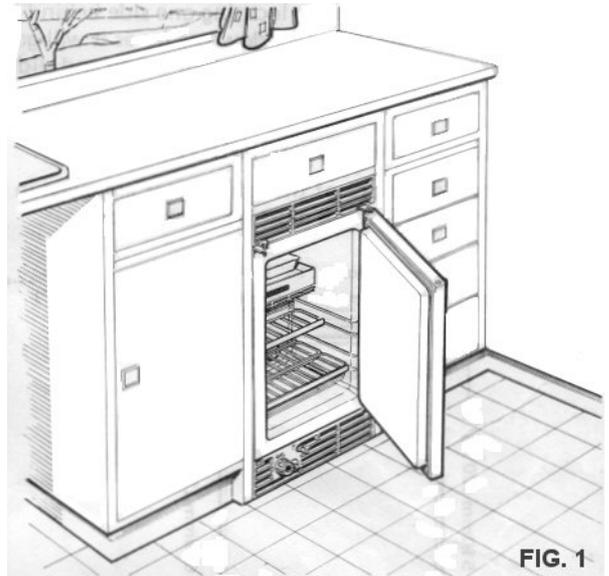

FIG. 1
A ventilator for fitting above the door as shown in fig. 1 is supplied with the refrigerator. The connection pipe, gas cock, and connectors are not supplied by Electrolux as the sizes of these may vary to suit particular installations. The appropriate parts should, however, be readily available from the refrigerator supplier or an Agent dealing in gas fittings (see note in item 13).